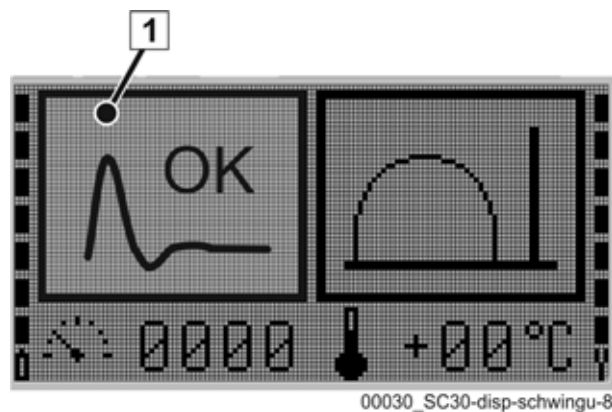

Fig. 650 Vibration damper = active
The active vibration damper is shown on the remote control display (1) (**Fig. 650**).